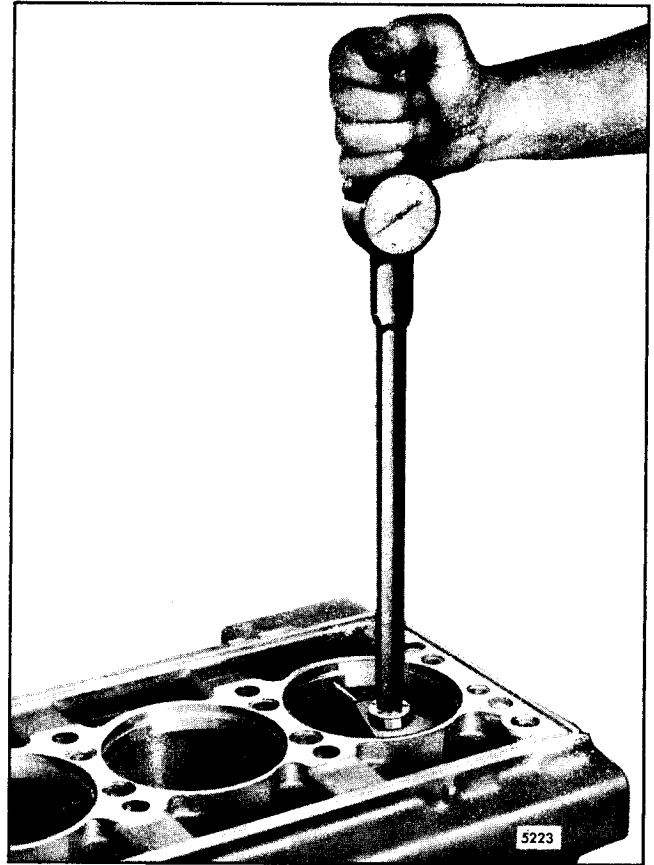
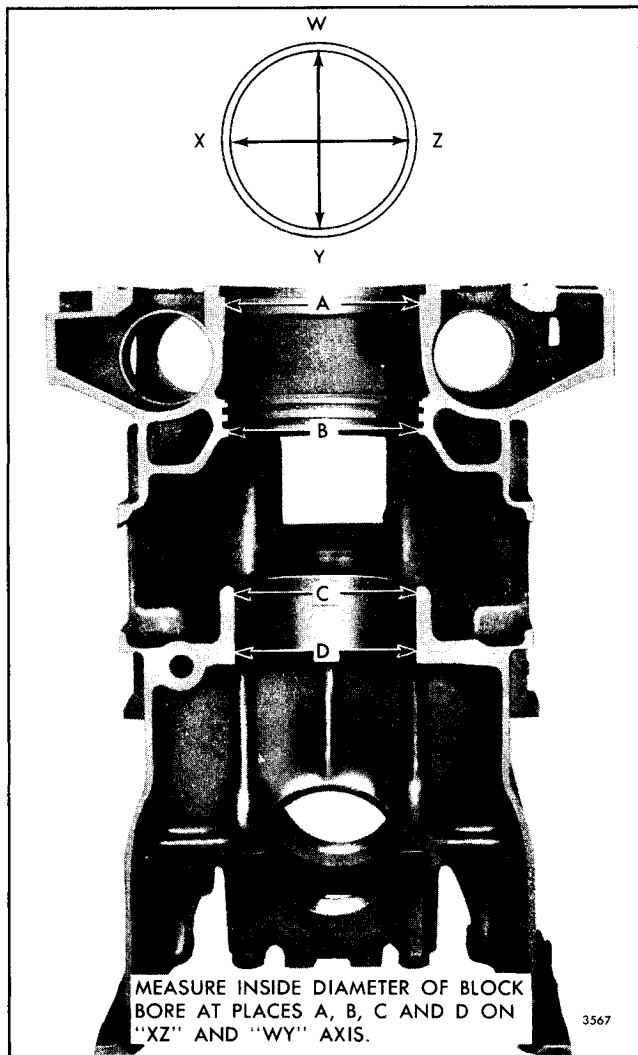

Fig. 13 - Checking Cylinder Block Bore with Tool J 5347-B
Fig. 14 - Block Bore Measurement Diagram
b. To determine if an oversize O.D. cylinder liner is required, measure the entire bore of each cylinder with cylinder bore gage J 5347-B (Fig. 13) which has a dial indicator calibrated in .0001" increments. Use dial bore gage setting tool J 23059-01 to preset the cylinder bore gage to zero. Measure each block bore at the positions indicated in Fig. 14, on axis 90° apart. If the diameter does not exceed 4.5235" at position "A", 4.4900" at position "B" (and a sealing problem hasn't occurred), or 4.3595" at position "C" and "D", then the block may be reused. Also, the taper and out of round must not exceed .0015".
use are provided by the manufacturers. When boring the block, measure the block after each cut at the locations shown on Fig. 14 and observe the dimensional limits in Table 1.